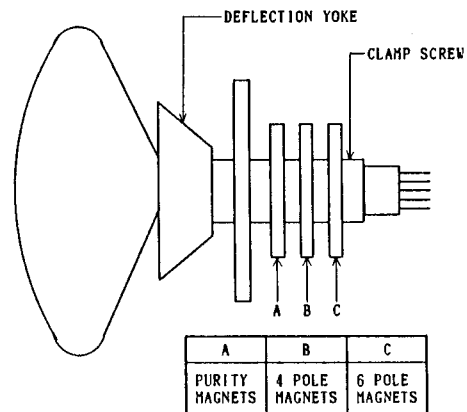

Figure 1 Picture Tube Neck Component Location
1. Check for correct location of all neck components. (Refer to Figure 1)